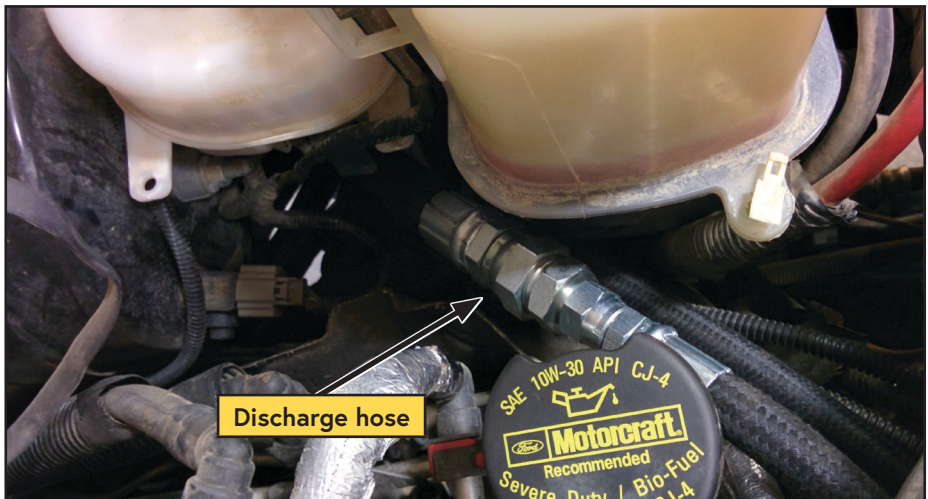

Figure 33 — Discharge hose assembly routing
- The discharge hose assembly should rest naturally near the coolant reservoir on the driver side of the vehicle (Figure 33).